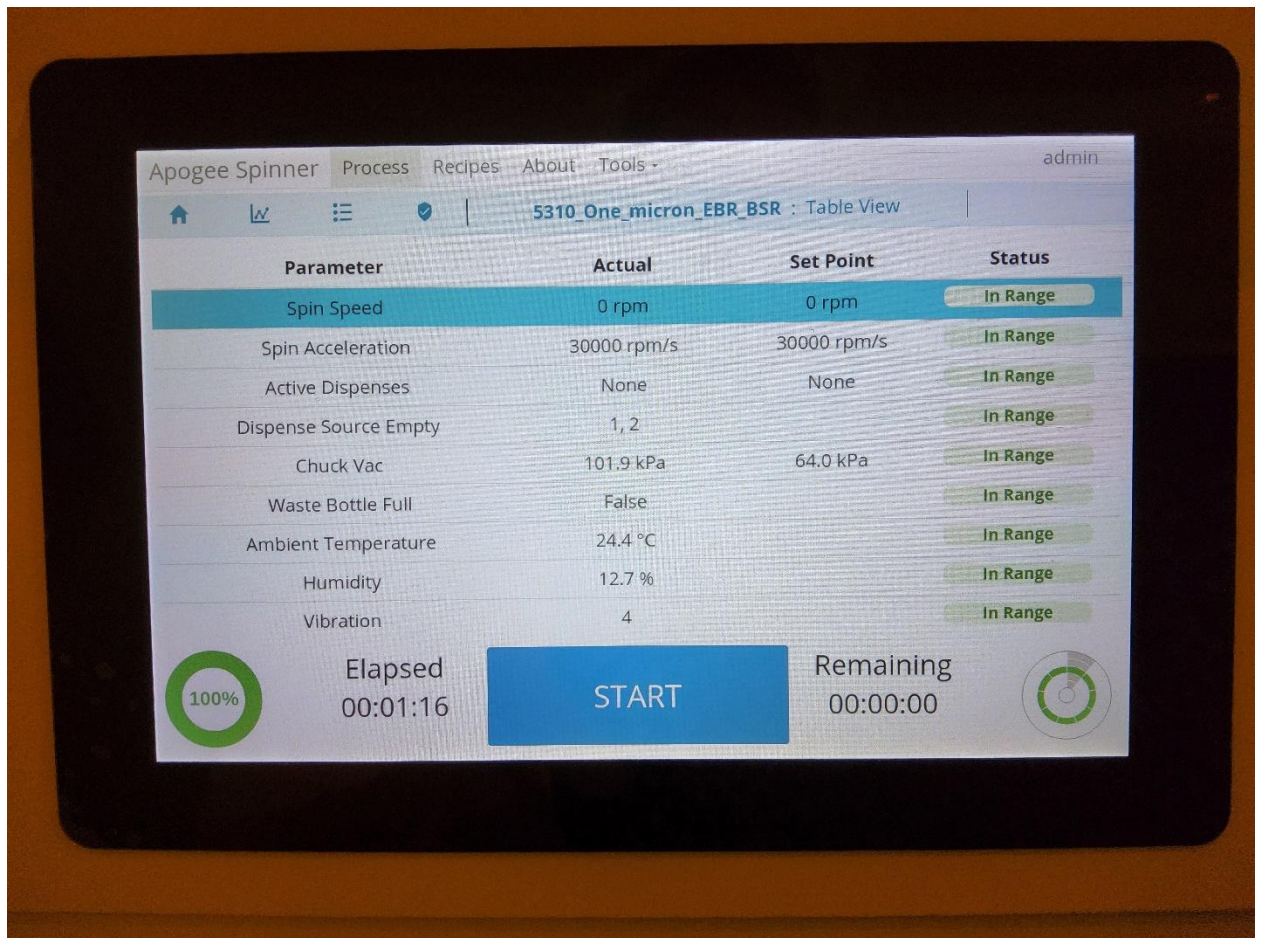
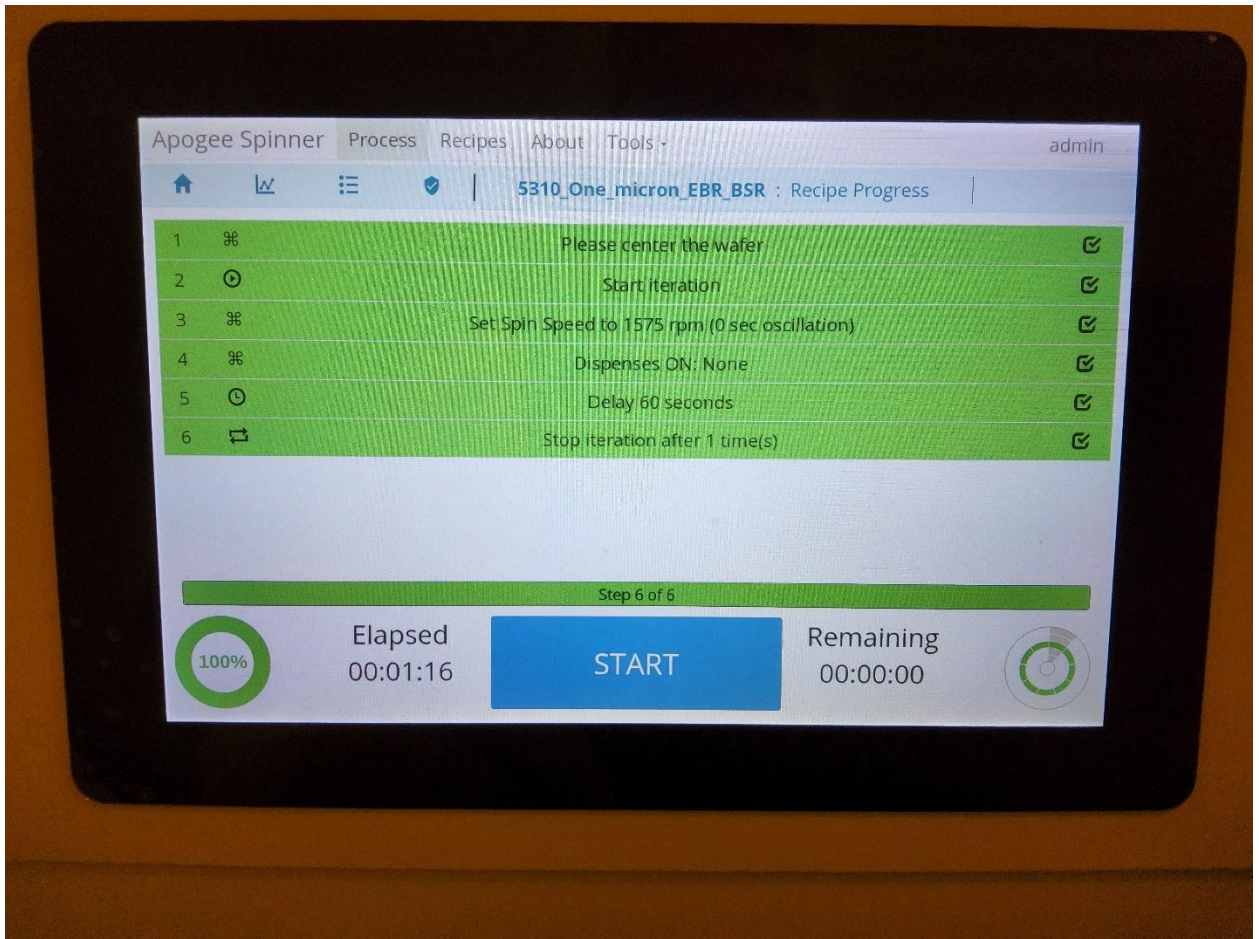

Figure 1.
Figure 2
1. The home screen of the spin coat module is shown in Figure 1. The recipe progress screen is shown in Figure 2. The recipe progress screen is useful for monitoring. To switch between the two screens simply press the home icon or the progress icon (looks like three lines).